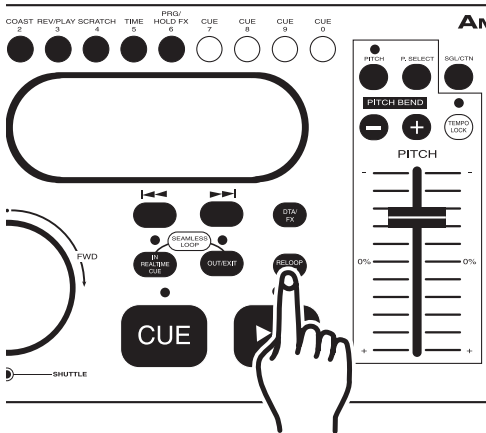

Figure 33
- 3) Now tap the RELOOP/BOP BUTTON (30). It will produce a stutter effect as quickly as you tap on the RELOOP/BOP BUTTON (30). See Figure 33.